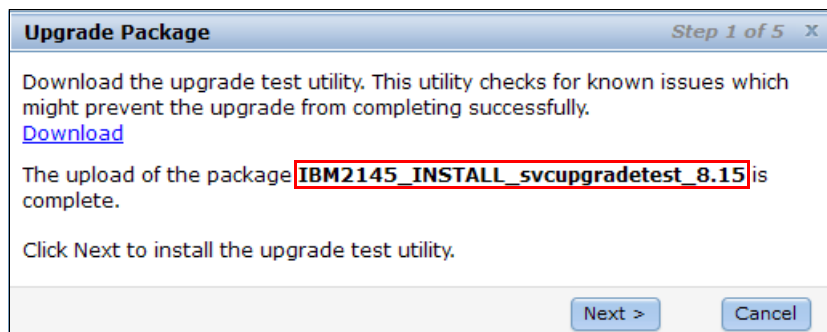

Figure 13-13 Step 1 of 5 - Upload upgrade test utility to the system
5. After the download completes, click **Next** to upload the upgrade test utility to the system, as shown in Figure 13-13.